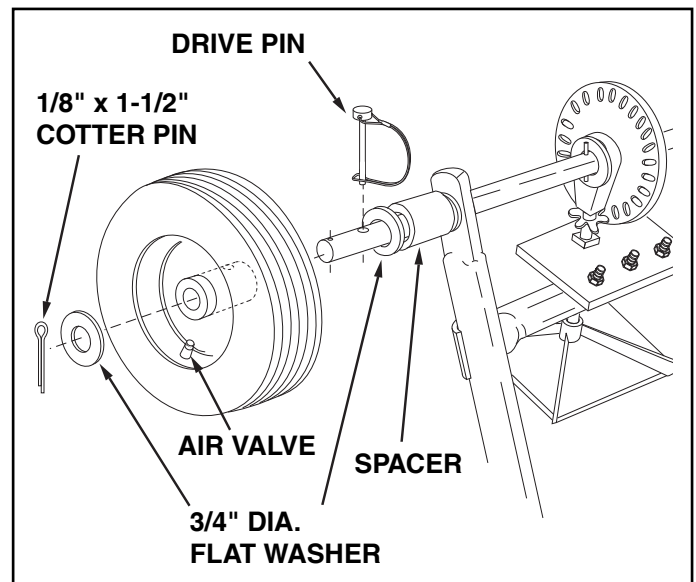

FIGURE 4
- Assemble a spacer, a 3/4" flat washer, a wheel (air valve facing out) and another 3/4" flat washer onto the end of the axle that has both the **large and small holes**. See figure 4.
- Install a 1/8" x 3/4" cotter pin into the small hole in the end of the axle. See figure 4.
- Open the bail on the drive pin and install it through the wheel and the large hole in the axle. Close the bail to lock the pin in place. See figure 4.
(Refer to figure 4 on page 6.)